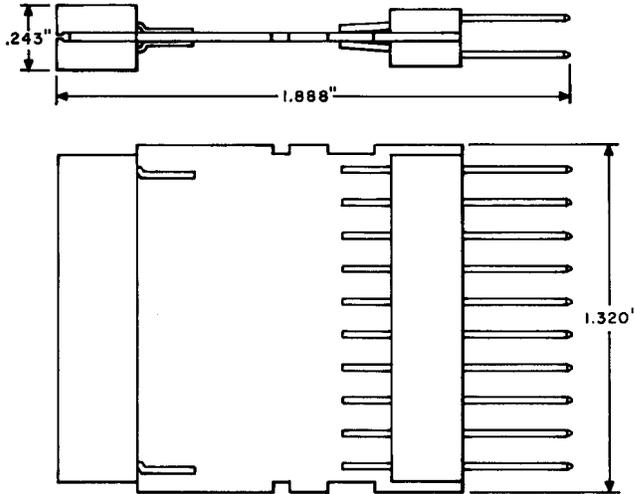

Fig. 8—794A Extender Tool
2.17 794A: The 794A extender tool (Fig. 8) is used on the No. 942- and 943-type connectors.